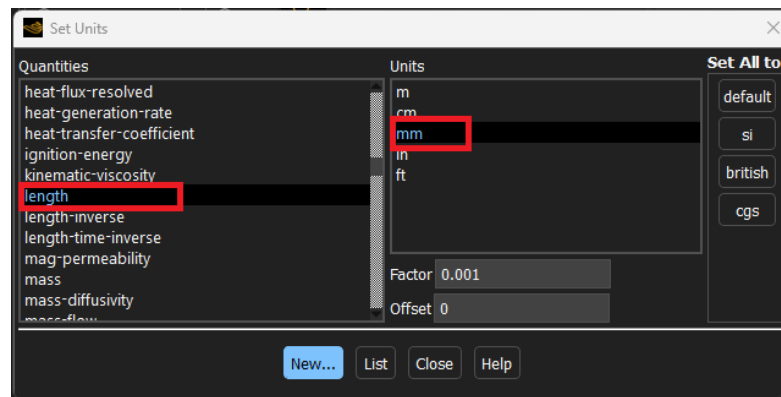

Figure 41: Set length unit in Fluent.
- It is convenient, for our purposes, to use *mm* as length unit. To do so, click on the *Units* button  also located in the Domain tab of the ribbon. This will open a new window, where it will be possible to select the units of measurement for each physical quantity. In particular, for length we select *mm*, as shown in figure 41.